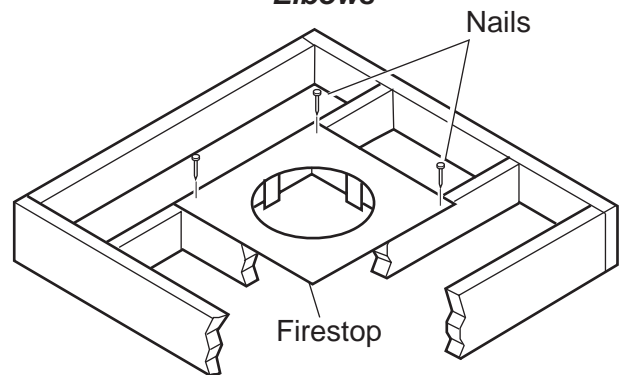
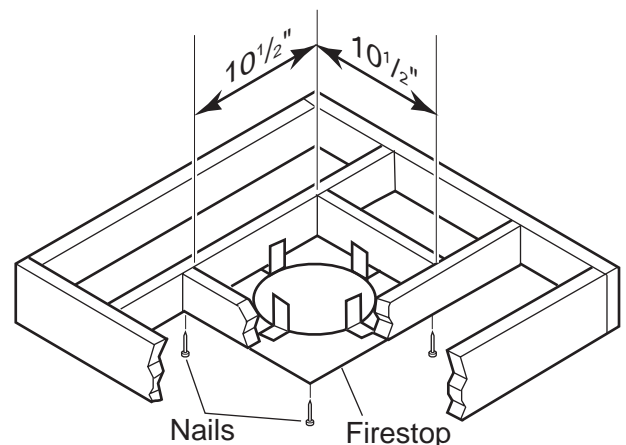

Figure 21 - If Area Above is a Room, Install Firestop above Framed Hole as Shown
Figure 22 - If Area Above is Not a Room, Install Firestop below Framed Hole as Shown
1. Cut a 10¹/₂" (241mm) square hole in the ceiling using the locating hole as a center point. The opening should be framed to 10¹/₂"x10¹/₂" (241mm x 241mm) inside dimensions as shown in Figure 22 using framing lumber the same size as the ceiling joist. If the area above the ceiling is an insulated ceiling or a room, nail firestop from the top side. This prevents loose insulation from falling into the required clearance space. See Figure 21. Otherwise, install firestop below the framed hole. See Figure 22.